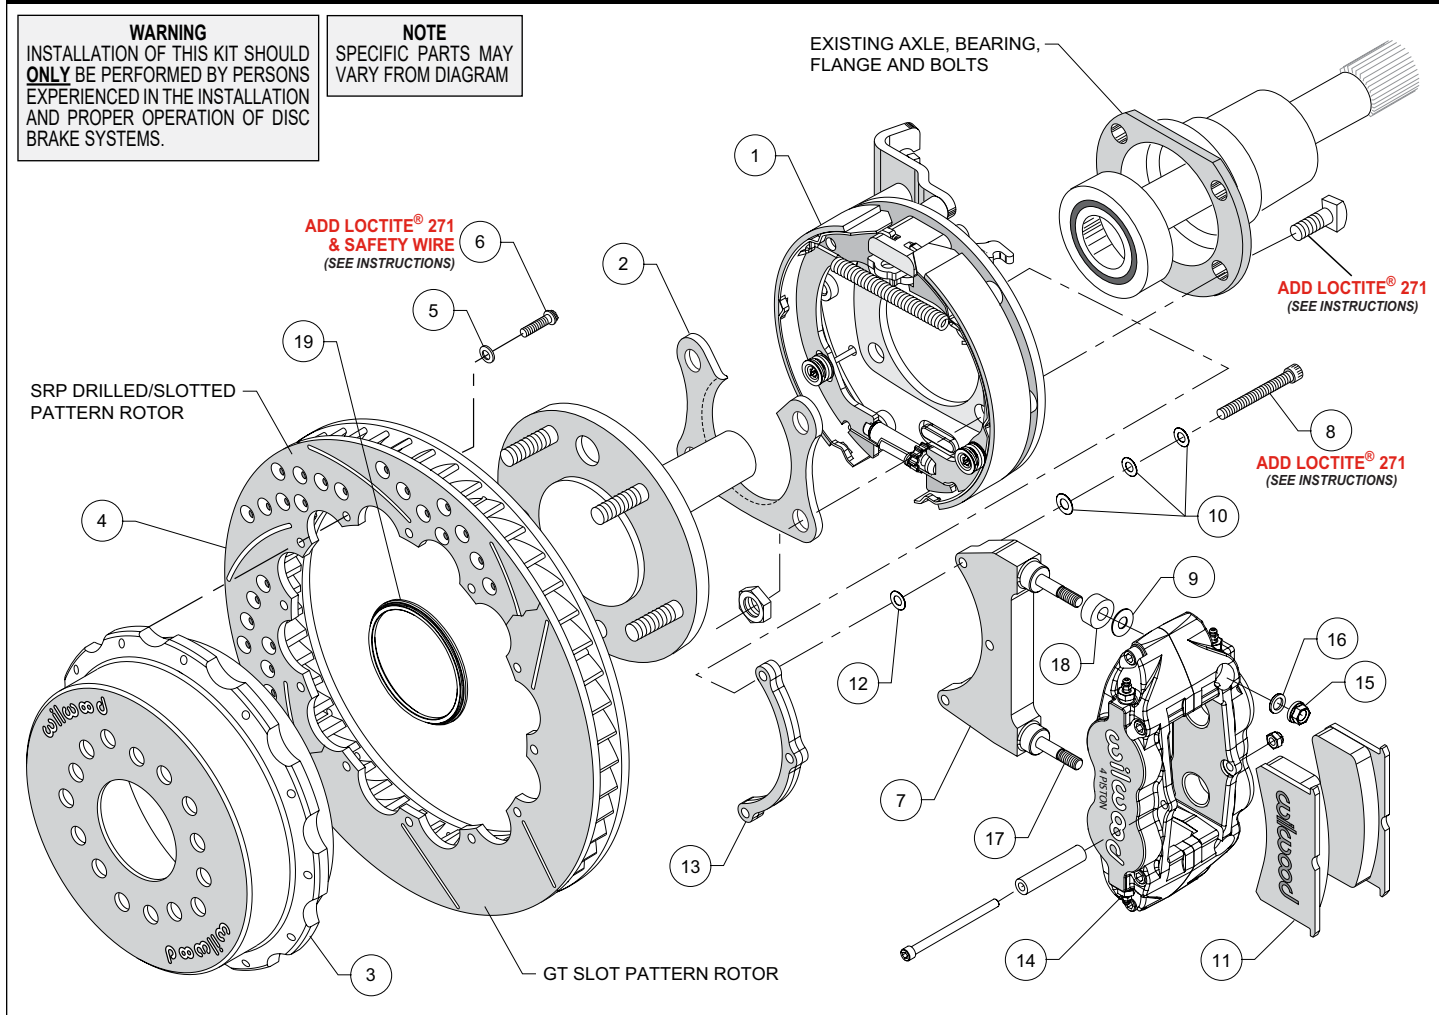

Figure 1. Typical Installation Configuration
- Slide the bracket kit assembly (1) onto the housing flange and then insert the axle assembly through the center hole of the bracket kit assembly (1). Align the bearing retainer, as shown in Figures 1 and 4, and secure using the stock Original Equipment Manufacturer (OEM) bolts and nuts. Stock OEM hex nuts that retain the bracket kit assembly (1) and retainer (2) should be on the wheel side of the bracket. Apply red *Loctite*® 271 to the stock OEM bolt threads and torque to OEM specifications. Make sure the bracket kit assembly (1) brake pads are FACING OUTWARD TOWARDS THE WHEEL.
•Slide the rotor registration adapter (19) onto the axle register on the axle flange with the smaller O.D. facing toward the rotor/hat (3). Align the correct hole pattern in the hat with the stud pattern on the axle flange. **NOTE:** Some OEM and aftermarket axles come with stud sizes larger than 0.50" diameter. Verify stud size and have a qualified machine shop drill the hats to the correct size, if necessary. Slide the hat/rotor assembly (3 and 4) over the wheel studs covering the bracket kit assembly (1) and against the axle flange face. Check to be sure the hat seats squarely against the hub. Install a couple of lug nuts (finger tighten) to keep the rotor/hat assembly in place while continuing with the installation.
•**NOTE:** Please reference the caution statement at the beginning of the assembly instructions. The caliper mounting bracket assembly (7) should be installed first with clean, dry threads on the mounting bolts (8). Install the bracket from the rear side of the bracket kit assembly (1) by sliding bolt (8) through three flat washers (10), bracket (7), shim washer (12) and finally through the spacer (13), see Figure 1. **NOTE:** End of bolt should not exceed inside face of insert. The bracket must tighten squarely against the back side of the bracket kit assembly (1). Inspect for interference from casting irregularities, machining ridges, burrs, etc. Use one thin shim (12) between the bracket (7) and spacer (13) during initial trial fitting.
•Install one spacer (18) and one shim (9) over each pre-installed stud (17) on the radial mount bracket (7). Slide the caliper (14) in place over the studs and rotor, then install the washer (16) and lock nut (15) to hold the caliper in place. Snug the lock nuts (15) and check that the rotor (4) is centered in the caliper (14). Add or subtract .015" shims (12) as necessary between the caliper mounting bracket (7) and the spacer (13) to center the caliper (9).
•Remove the caliper center bridge pad retainer bolt, nut, and tube from the caliper. Slide the brake pads (11) into place. They should install easily without interference. Check that the outside radius of the brake pad is aligned with the outside diameter radius of the rotor face. Add or subtract shims (9) between the caliper (14) and mount bracket (7) to gain the proper alignment. Reinstall the center bridge pad retainer tube, bolt, and locknut. The locknut should be snug without play in the bolt or tube. Be cautious not to over tighten.
•Adjust the parking brake shoes outward (using a drum shoe adjustment tool available at your local auto parts store) while spinning the hat (3) until a slight drag is felt against the hat/drum. Remove the lug nuts that were holding the hat/rotor in place. Install the wheel and lug nuts. Check to see that the wheel rotates freely without interference.
•Once all clearances have been checked, remove the wheel, caliper, hat/rotor from the bracket kit assembly (1). Secure the caliper mounting bracket (7) to the bracket kit assembly (1) using red *Loctite*® 271. Torque bolts (8) to 180 in-lb. Reinstall the hat/rotor assembly and again use lug nuts to hold it in place. Reinstall the caliper and torque the caliper nuts (15) to 28 ft-lb.
•**NOTE:** Clevis and cable kits which attach to the parking brake assembly are not included in the Wilwood parking brake kit. Wilwood offers a generic style parking brake cable kit, P/N 330-9371 for this application which can be ordered separately from your local Wilwood dealer or by calling Wilwood customer service at (805) 388-1188.